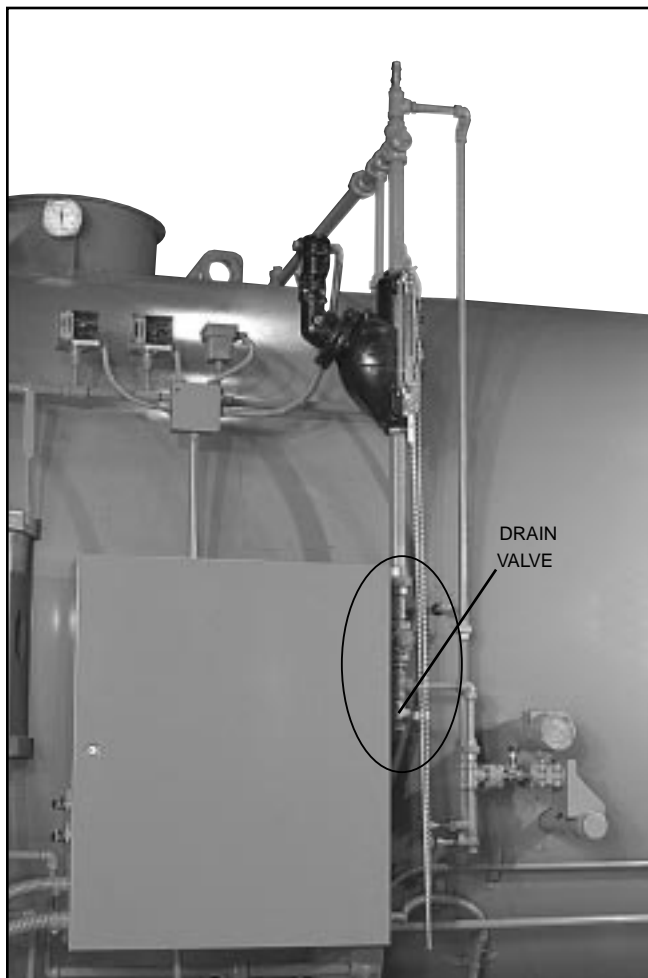

Figure: 1-6 Water Column Assembly
5. Water Column Assembly (Figure 1-6): Houses the low-water cutoff and pump control and includes the water gauge glass, gauge glass shutoff cocks.
6. Water Column Drain Valve (Figure 1-6): Provided so that the water column and its piping can be flushed regularly to assist in maintaining cross-connecting piping and in keeping the float bowl clean and free of sediment. A similar drain valve is furnished with auxiliary low-water cutoff for the same purpose.